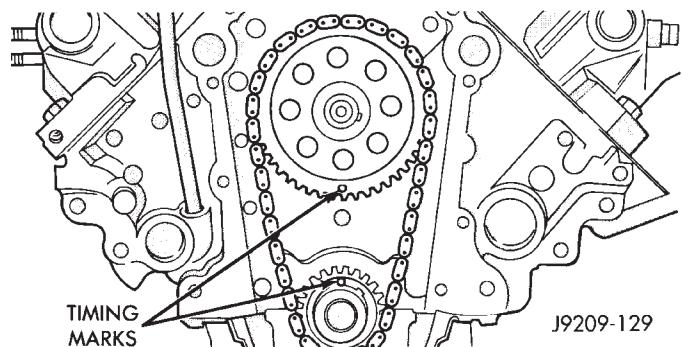

Fig. 13 Alignment of Timing Marks
(3) Hold tool in position with a distributor lockplate bolt. This tool will restrict camshaft from being pushed in too far and prevent knocking out the Welch plug in rear of cylinder block. **Tool should remain installed until the camshaft and crankshaft sprockets and timing chain have been installed.**
(4) Install camshaft thrust plate and chain oil tab. **Make sure tang enters lower right hole in thrust plate.** Tighten bolts to 24 N•m (210 in. lbs.) torque. Top edge of tab should be flat against thrust plate in order to catch oil for chain lubrication.
(5) Place both camshaft sprocket and crankshaft sprocket on the bench with timing marks on exact imaginary center line through both camshaft and crankshaft bores.
(6) Place timing chain around both sprockets.
(7) Turn crankshaft and camshaft to line up with keyway location in crankshaft sprocket and in camshaft sprocket.
(8) Lift sprockets and chain (keep sprockets tight against the chain in position as described).
(9) Slide both sprockets evenly over their respective shafts and use a straightedge to check alignment of timing marks (Fig. 13).
(10) Install the camshaft bolt/cup washer. Tighten bolt to 68 N•m (50 ft. lbs.) torque.